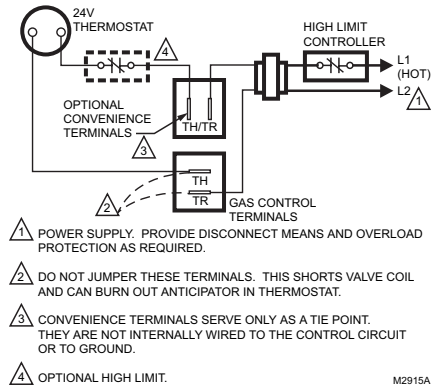

Fig. 9. Wiring connections for V8200 and VR8200 controls.
2. Connect control circuit to gas control terminals. (See Figure 9 or 10).